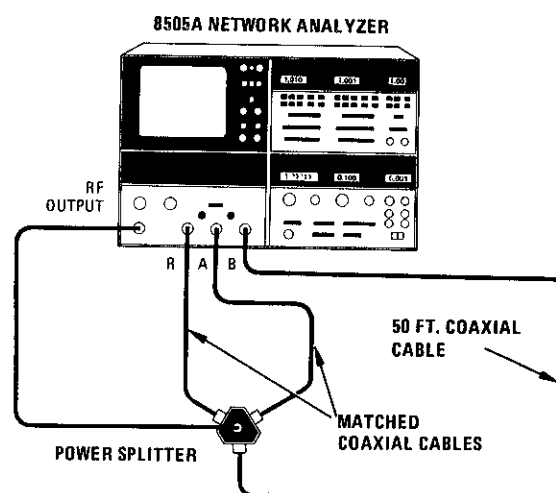

Figure D3-1C. A3 Signal Processor Troubleshooting Test Setup (Group Delay)
- s. Connect equipment as shown in Figure D3-1C and set the 8505A controls as follows: